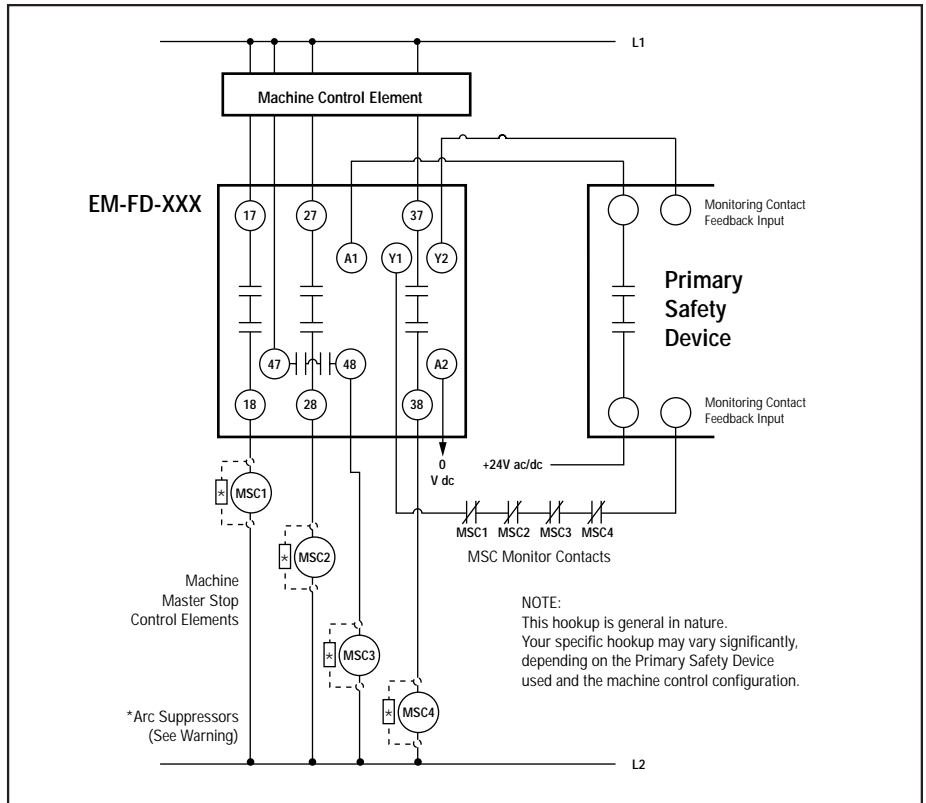

Figure 3. Generalized EM-FD-7G Series hookup
The Safety Extension Module offers an output circuit at terminals Y1 and Y2 which provides K1 and K2 contact status information for connection to the monitoring input of the Primary Safety Device (see Figure 3). This monitoring circuit prevents the Primary Safety Device from being reset if contacts of either K1 or K2 of the Extension Module fail in a shorted condition.
An EM-FD-7G Series Safety Extension Module is driven by one safety output channel of a Primary Safety Device. The design of the Primary Safety Device must meet OSHA and ANSI control reliability requirements. **The EM-FD-7G Series module must be used only with a Primary Safety Device which has a dedicated input for feedback monitor contacts** (see hookup diagram, Figure 3).
- 2) **ALWAYS** connect terminals Y1 and Y2 of this Extension Module to the monitoring input of the Primary Safety Device that controls it (see Figure 3).
## One-Channel Control (Figure 3)
The hookup diagram in Figure 3 shows a generic connection of the four safety output channels of the Safety Extension Module to Master Stop Control Elements MSC1 through MSC4. A Master Stop Control Element is defined as an electrically powered device, external to the Extension Module, which stops the machinery being controlled by immediately removing the electrical power to the machine and (when necessary) by applying braking to dangerous motion (reference ANSI B11.19, section 5.2: "Stop Control"). **To achieve control reliability, two redundant MSCs are required to control each machine hazard.**
To satisfy the requirements of control reliability, all MSCs must offer at least one normally closed forced-guided monitor contact. One normally closed monitor contact from each MSC is wired in series to the monitoring contact feedback input of the Primary Safety Device, as shown in Figure 3. In operation, if one of the switching contacts of any MSC fails in the shorted condition, the associated monitor contact will remain open. As a result, it will not be possible to reset the Primary Safety Device.
MSCs must offer at least one forced-guided auxiliary contact which is wired to the monitoring contact feedback input of the Primary Safety Device (see hookup diagram, Figure 3).
NOTE: *The Safety Extension Module can be used safely only when its operation is controlled via an appropriate Primary Safety Device, connected to the Extension Module according to the wiring diagram shown in Figure 3.*
- 3) Confirm proper connection of the Safety Extension Module to the controlling Primary Safety Device according to the wiring diagram (see Figure 3).